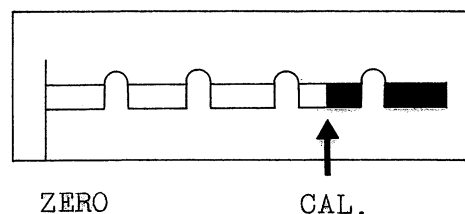

Fig. 4 Indicator scale diagram
- 3) The self-calibration will be finalized if the indication of indicator comes in the position "CAL." painted in red and grey when the multi-range is placed in "CAL." position. (Fig. 4) If the indicator is deviated, it should be correctly adjusted to the zero point by means of "VOLT ADJ." provided on the rear panel.